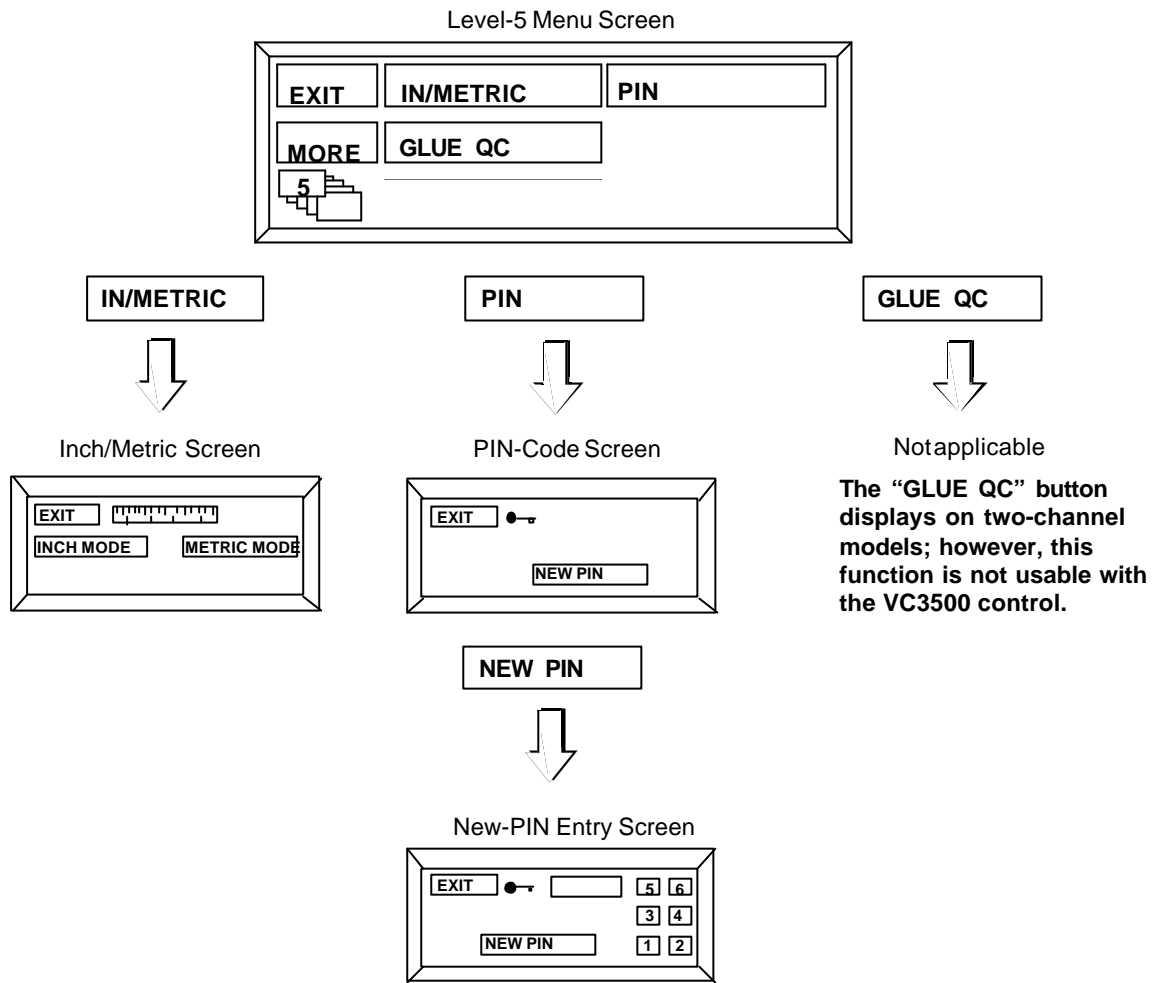

Figure 21. Level-5 Menu Screen and Associated Screens
The level-5 menu screen (Figure 21) displays when the word "MORE" on the level-4 menu screen is pressed. The small box with the numeral 5 indicates that this is the level-5 menu screen. The function of each button is as follows:
The inch/metric screen (Figure 21) is used to specify either inches or millimeters. The function of each button is as follows:
The PIN-code screen (Figure 21) is used to specify a PIN code in order to restrict screens 3-6. The function of each button is as follows:
- Level-5 menu screens—Figure 21 (page 38)